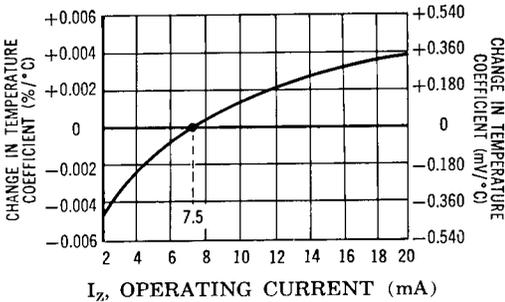

FIGURE 3 Typical change of Temperature Coefficient with Change in Operating Current.
The curve shown in Fig. 3 is typical of the diode series and greatly simplifies the estimation of the Temperature Coefficient (TC) when the diode is operated at currents other than 7.5 mA.
EXAMPLE: A diode in this series is operated at a current of 7.5 mA and has specified Temperature Coefficient (TC) limits of  $\pm 0.005\%/^{\circ}\text{C}$ . To obtain the typical Temperature Coefficient limits for this same diode operated at a current of 6.0 mA, the new TC limits ( $\%/^{\circ}\text{C}$ ) can be estimated using the graph in FIGURE 3.
In conjunction with Fig. 3 this curve can be used to estimate total voltage regulation under conditions of both varying temperature and current.